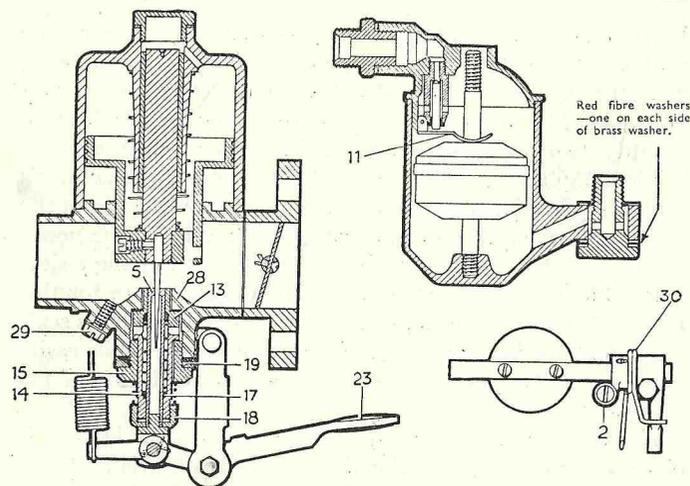

FIG. 58.—SECTIONAL VIEWS OF S.U. CARBURETTOR, TYPE MC2.
After checking, if this is considered necessary, the type of needle fitted, tuning of the carburetter is necessarily confined to correct idling adjustment. This operation should be attempted only after the engine has attained normal running temperature, and is carried out by means of the throttle-stop screw (2, Fig. 58), which governs the amount of throttle opening for idling, and the jet-stop nut (18), which gives an enriching effect when screwed downwards, and a weakening effect when screwed upwards.
A second check on the correctness of the mixture strength may be made by unscrewing the hexagon-headed 2 B.A. plug screw (29, Fig. 58), immediately under the air intake (set in an angular position), and then with the engine idling a thin wire nail or similar type of metal rod is carefully pushed upwards until it lifts the suction piston, then any amount of manual lift over  $\frac{1}{32}$  in. should cause the engine to stop from weakness of mixture, and therefore, this setting can be taken as correct;
*Sticking of Piston.*—The symptoms here are either stalling and a refusal of the engine to run slowly or, alternatively, lack of power accompanied by excessive fuel consumption. This defect is easily detectable. The piston should rest, when the engine is not running, upon the bridge (28, Fig. 58). When raised by means of a rod inserted through the 2 B.A. hole under the air intake, as previously described, to its highest position against the appreciable resistance of the piston, and then released, it should drop freely, and strike the bridge sharply and distinctly. If it becomes prematurely arrested in its downward movement, or if it appears unduly reluctant to break away from its position of rest on the bridge when an attempt is made to raise it from this position, the jet should be lowered by means of the enrichment mechanism and the test repeated.
*Eccentricity of Jet and Needle.*—Re-centring of the jet in relation to the needle will be necessary should the jet have become laterally displaced in service due to inadequate tightening of the locking screw (15, Fig. 58), or any other cause. This operation will, of course, also be necessary if the jet and its associated parts have been removed for any reason. It may also be necessary after the removal and replacement of a needle. The procedure for the re-centring of the jet is as follows.
The jet stop nut (18, Fig. 58) should first be screwed upwards to its fullest extent, the jet head then being raised to contact it so that the jet assumes its highest possible position. The locking screw (15) should now be loosened just sufficiently
A moderate side loading applied to the lower protruding part of the lower jet bush (14, Fig. 58) will indicate whether or not the assembly has been sufficiently freed. The piston should now be raised, and, maintaining the jet in its highest position, the piston should be allowed to drop. This will cause the needle to be driven fully into the jet mouth, and thus bring about the required centralisation. The locking screw should now be tightened and the jet returned to its former position. Should any indication of contact between the needle and the jet persist, which may sometimes occur due to further displacement of the assembly on finally tightening the locking screw, this must again be slacked off and the operation repeated.
Flooding also may occur if the original manufacturer's setting of the hinged fork lever (11, Fig. 58), in the top of the float chamber has been disturbed, possibly causing the petrol level to be higher than normal, this higher level giving a slow petrol bleed over the jet bridge. The setting figure for this fork is that with the fork pressing the needle home in its seating, then a  $\frac{3}{8}$ -in.-diameter test bar should just slide easily between the curve of the fork and the circular facing of the float-lid casting.
*Leakage from Bottom of Jet.*—If persistent slow leakage is observed in the neighbourhood of the jet head, it is probable that the jet-gland washer (17, Fig. 58) and its lower counterpart, together with the locking-screw washer (19), require replacement. The jet lever (23) should first be detached from the jet head, the locking screw (15) removed, and the entire jet and jet-bush assembly withdrawn. On reassembly great care should be taken to replace all parts in their correct situations, as shown in the diagram. Re-centring of the jet, as previously described, will, of course, be necessary after this operation.